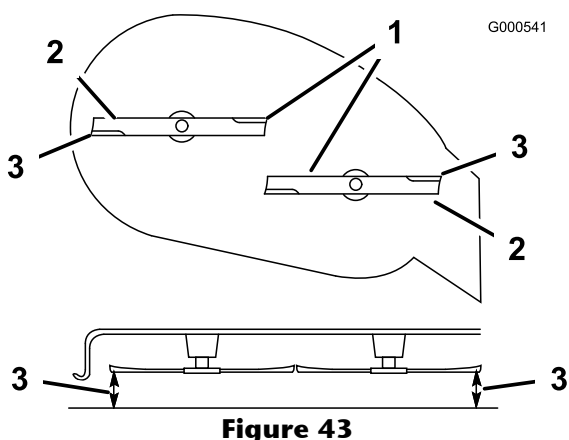

Figure 43
5. Carefully rotate the blade(s) side to side (Figure 43). Measure between the outside cutting edges and the flat surface (Figure 43). If both measurements are not within 3/16 inch (5 mm), an adjustment is required; continue with this procedure.